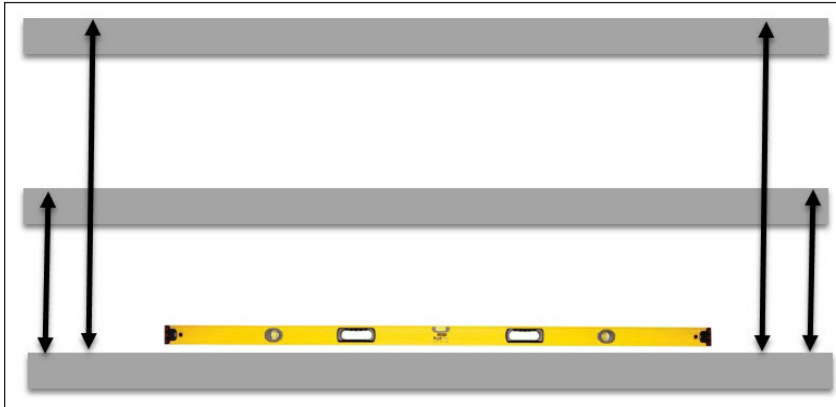
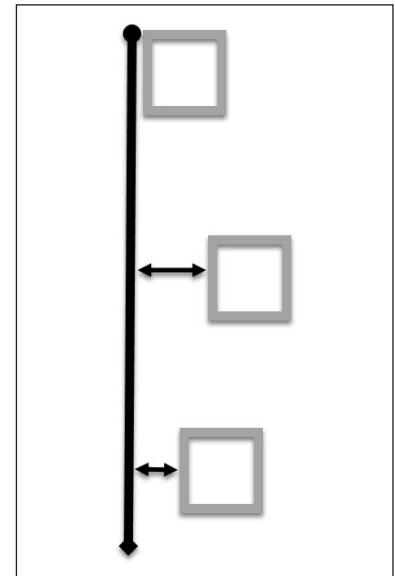

Figure 1: Verify Level Horizontal Rolled Tubes (Front View)
Figure 2: Verify Plumb Horizontal Rolled Tubes (Side View)
2. Turn the knob on the module removal tool clockwise to disengage the tool. Refer to **Figure 1**.
2. Verify the horizontal rolled tubes are level and plumb per the contract-specific Shop Drawing. Refer to **Figure 1** and **Figure 2**. If no tolerances are listed on the drawing, use $\pm 1/4$ " level and $\pm 1/4$ " plumb face (horizontal rolled tube) or $\pm 1/4$ " level and $\pm 1/4$ " plumb face (directly to horizontal tube).